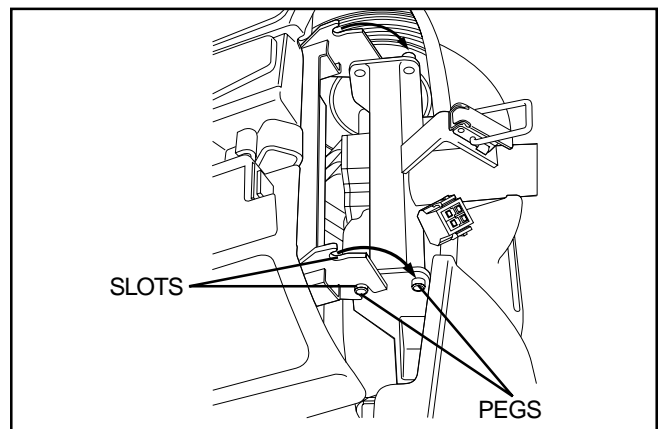

Figure 21. Frame Lockup
2. Lift the front section up until the lower pegs are no longer in the slots. See figure 21.
2. Use the tiller handle to lift the front section as you align the lower slots of the front section with the corresponding pegs on the front of the rear section. See figure 21.